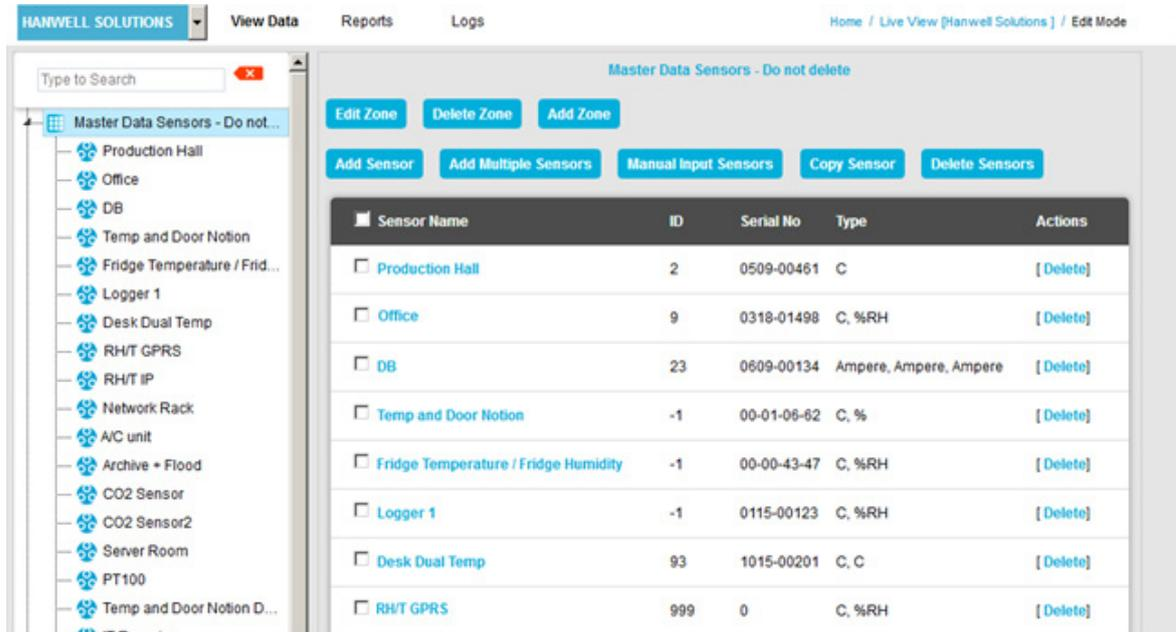

Figure 4
- The **Edit Mode** window is displayed. See Figure 4 overleaf: